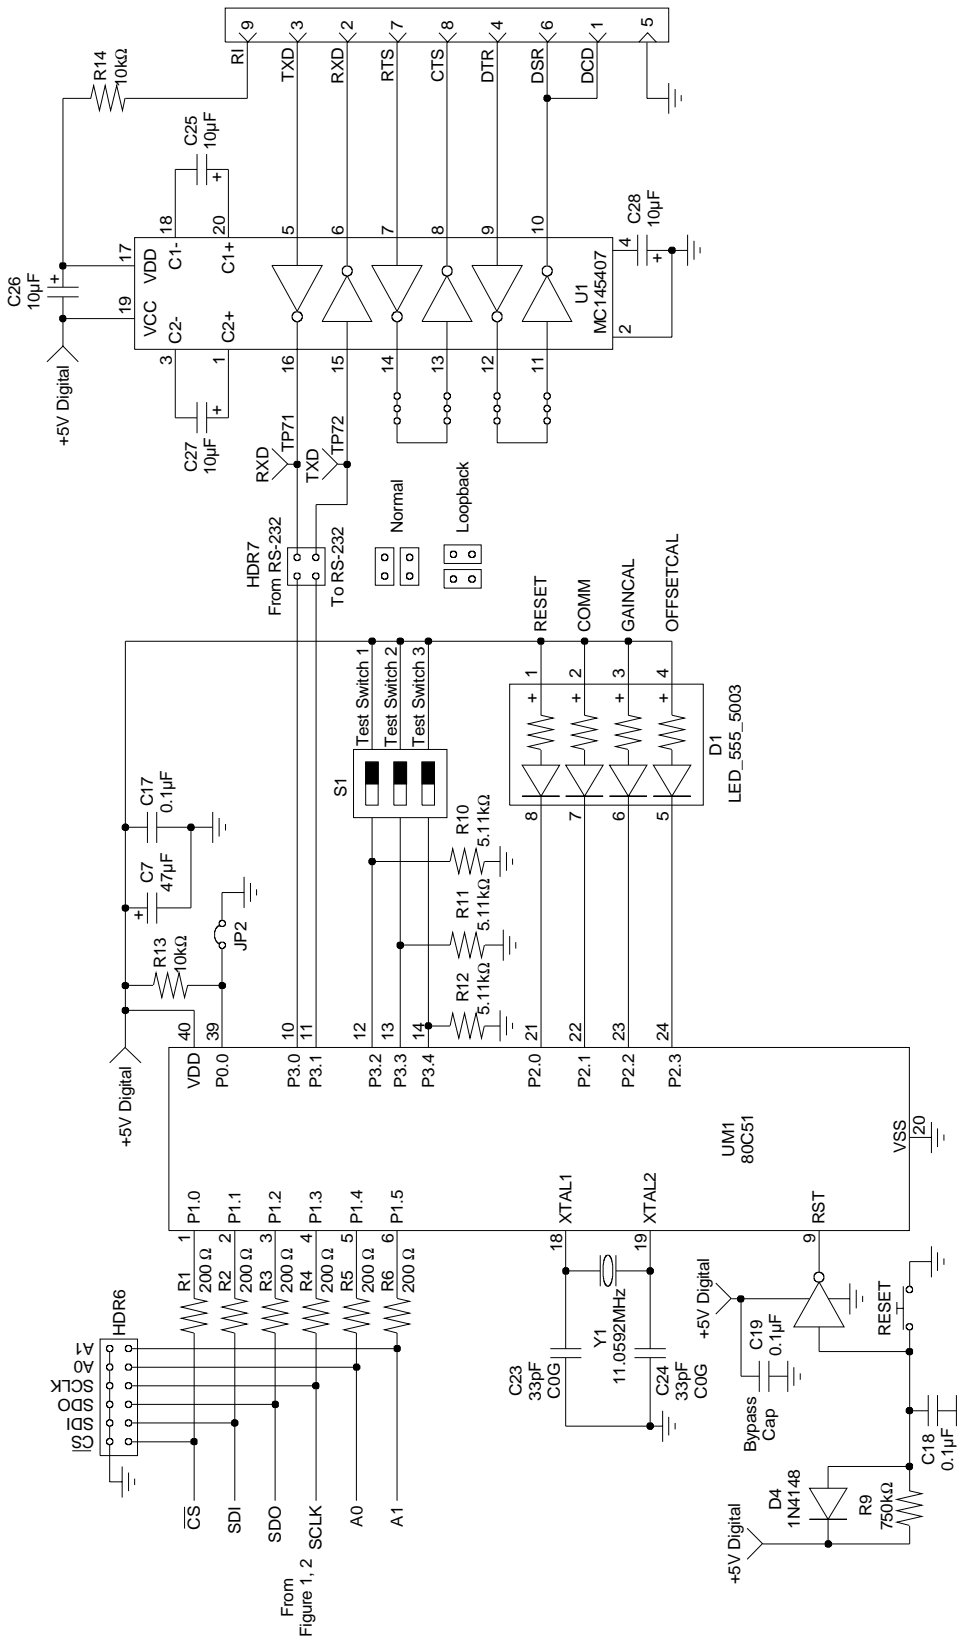

Figure 3. Digital Section
- Figure 3. Digital Section 7
Figure 3 illustrates the schematic of the digital section. It contains the microcontroller, a Motorola MC145407 interface chip, and test switches. The test switches aid in debugging communication problems between the CDB5521/22/23/24/28 and the PC. The microcontroller derives its clock from an 11.0592 MHz crystal. From this, the controller is configured to communicate via RS-232 at 9600 baud, no parity, 8-bit data, and 1 stop bit.